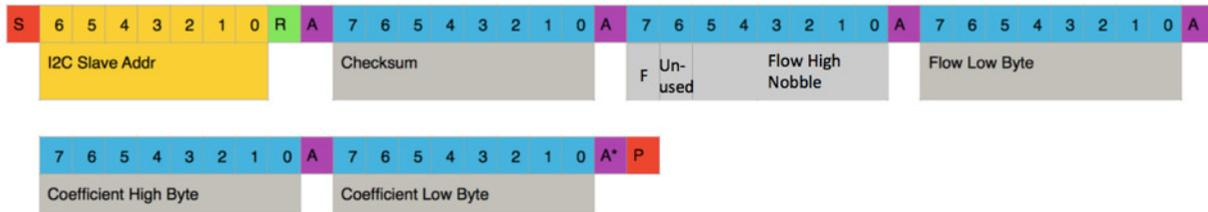

Figure 2: I2C Read flow sensor data
Reading flow sensor data is initiated by sending the I2C address followed by a READ bit. The slave will then transmit five bytes, as per Figure 2. The checksum is to ensure data integrity and is described in a following section. Bit F is the red flag. When the flag is cleared (0), the current data is being read for the first time from the I2C bus. The bit is set (1) after completing the first read operation. Subsequent reads before the output buffer is updated will include the F bit set. The bit will be cleared on the next update of the I2C output buffer. Updates occur at a 1-ms rate asynchronous to I2C events. A NACK from the master that occurs before the Coefficient Low Byte will result in a reset of the I2C logic and the device will stay idle (SDA released, pulled HIGH) until the next start bit. The value of the (N)ACK (identified by \*) after the Coefficient Low Byte is considered a “Don’t Care” value from the device.